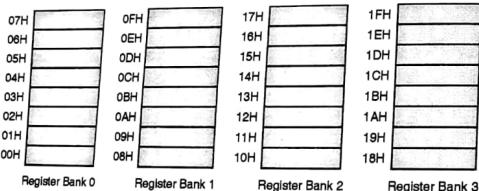

Fig. 3.2.3 : 8051 register banks and their RAM addresses
- The second bank of registers begins at 08H – 0FH. The third bank of R0 – R7 begins at 10H – 17H and finally the fourth bank of R0 – R7 at RAM locations 18H – 1FH as shown in Fig. 3.2.3.